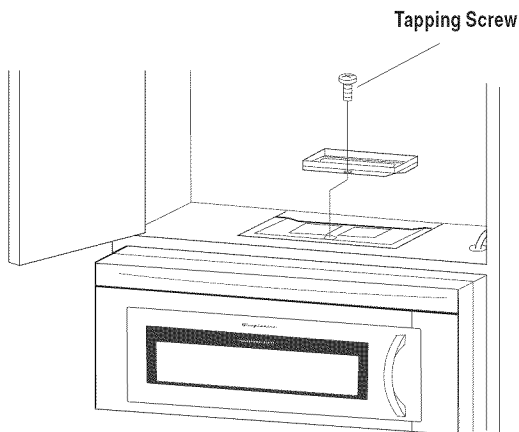

Figure 20
6. Attach the Exhaust Damper Assembly to the fan cover bracket on the top of the outcase cabinet after mounting the oven. To attach the Exhaust Damper Assembly, refer to MOUNTING OVEN TO THE WALL, See Figure 20 on page 7 and TOP CABINET TEMPLATE.